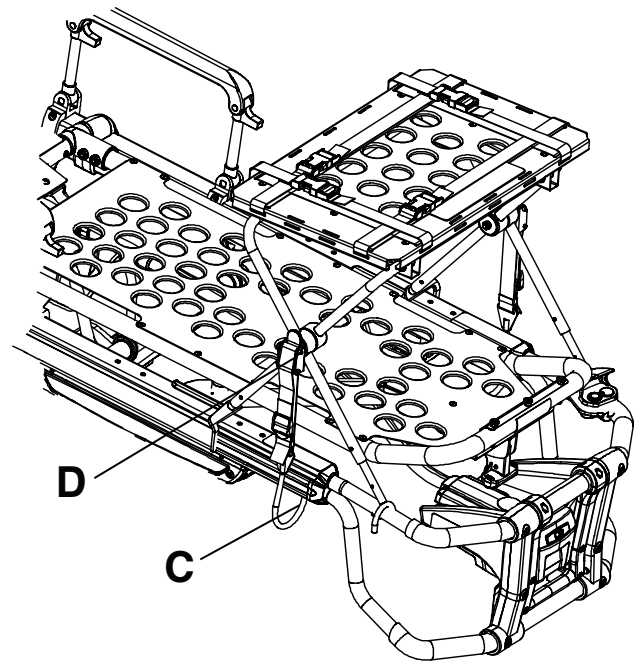
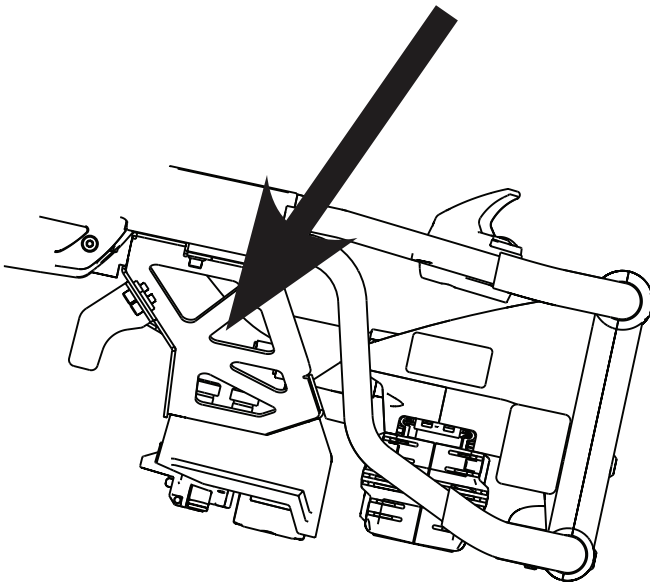

Figure 40 – Latch hook placement (Model 6506 shown)
Figure 41 – Tab (Model 6506 shown)
6. Place the latch hook (C) under the litter frame or foot end fastener and push the tab (D) up until it locks into place on one side with an audible click (Figure 40). Repeat on the other side. For **Power-LOAD** compatible cots, if equipped, you must lengthen and attach the straps to the foot end fastener (Figure 41).